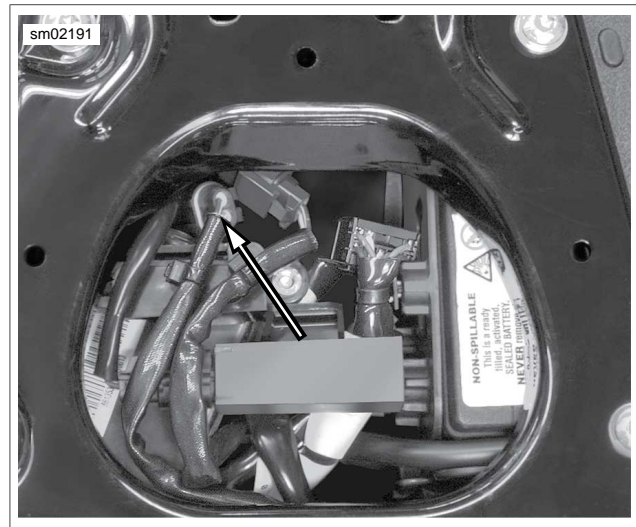

Figure 4-65. Rear O2 Connector and Harness
2. See Figure 4-65. Disconnect rear O2 sensor connector [137]. Note wire routing for proper installation.
13. See Figure 4-65. Connect rear O2 sensor connector [137].